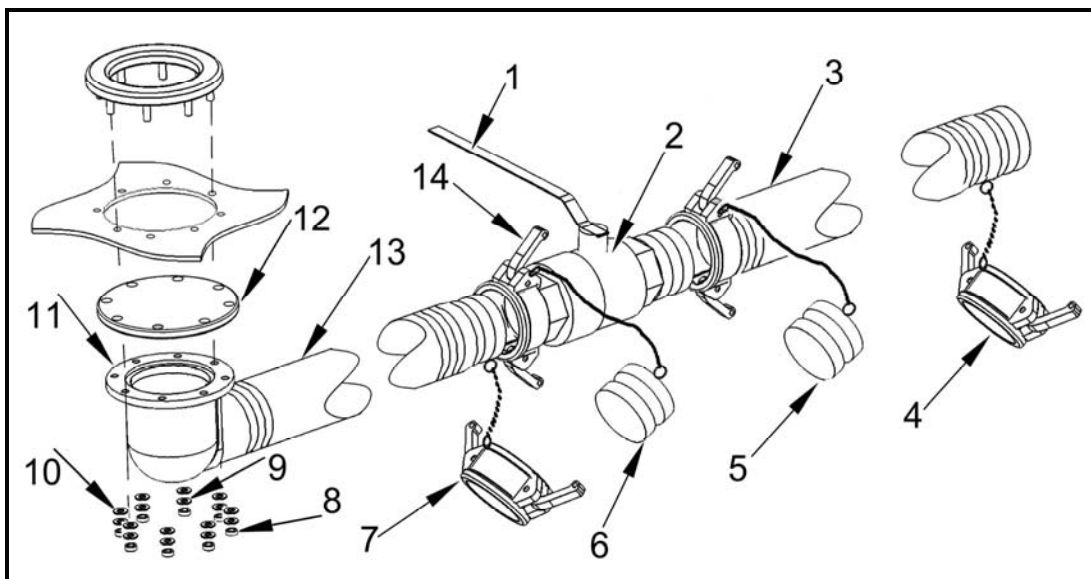

Figure 22. Tank Drain and Hose Assembly.
1. Fold each corner as required to expose the drain flange assembly (Figure 22, Item 12) on the bottom of the tank.
2. Remove the drain assembly blind flange (Figure 22, Item 12) by removing the eight 3/8 inch nuts (Figure 22, Item 8), lock washers (Figure 22, Item 9), and washers (Figure 22, Item 10).
3. Locate the 16 foot drain hose assembly with the drain dome fitting (Figure 22, Item 13).
5. Position the drain dome fitting (Figure 22, Item 11) where the blind flange (Figure 22, Item 12) was removed. Rotate the drain dome fitting such that the attached drain hose (Figure 22, Item 13) extends in the proper direction away from the center of the tank.
7. Secure the dome fitting (Figure 22, Item 11) with the eight 3/8 inch nuts (Figure 22, Item 8), lock washers (Figure 22, Item 9) and washers (Figure 22, Item 10).
8. Torque nuts (Figure 22, Item 8) to 40 ft-lb (see WP 0028 00).
10. Locate the drain ball valve assembly (Figure 22, Item 2).
11. Move the cam lock levers on the hose assembly dust cap (Figure 22, Item 7) to the outward position and remove dust cap from end of hose.
12. Move the cam lock levers on the valve assembly (Figure 22, Item 14) to the outward position and remove dust plug (Figure 22, Item 6) from the valve assembly.
14. Insert the hose assembly (Figure 22, Item 13) into the valve assembly (Figure 22, Item 2).
16. Rotate Ball Valve lever (Figure 22, Item 1) to the closed position.
17. Locate the 10 foot drain hose assembly with the male and female cam-lock fittings (Figure 22, Item 3).
18. Move the cam lock levers on the hose assembly dust plug (Figure 22, Item 5) to the outward position and remove dust plug from end of hose.
19. Move the cam lock levers on the hose assembly dust cap (Figure 22, Item 4) to the outward position and remove dust cap from end of hose.
21. Insert the hose assembly (Figure 22, Item 3) onto the valve assembly (Figure 22, Item 2).